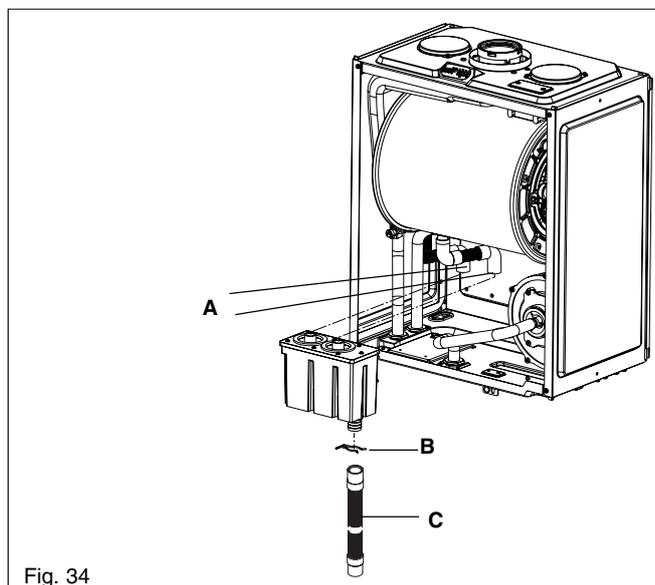

Fig. 34
6.20 CONDENSE TRAP REMOVAL (fig. 34)